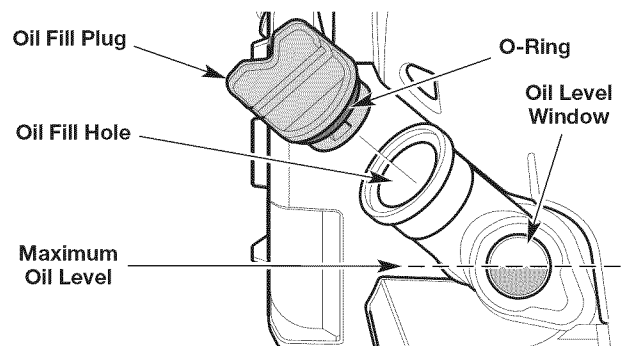

Fig. 27
3. Look into the oil level window; use a flashlight if necessary. **The oil level should fill the window approximately halfway** (Fig. 27). If the oil level is too low, add oil. Refer to *Adding Oil*.
1. Clean the area around the oil fill plug (Fig. 27) to prevent debris from entering the oil fill hole.
3. Add oil to the oil fill hole until the oil level is approximately halfway up the oil level window (Fig. 27).
5. Make sure the O-ring is in place on the oil fill plug (Fig. 27).
7. Make sure the O-ring is in place on the oil fill plug (Fig. 27).